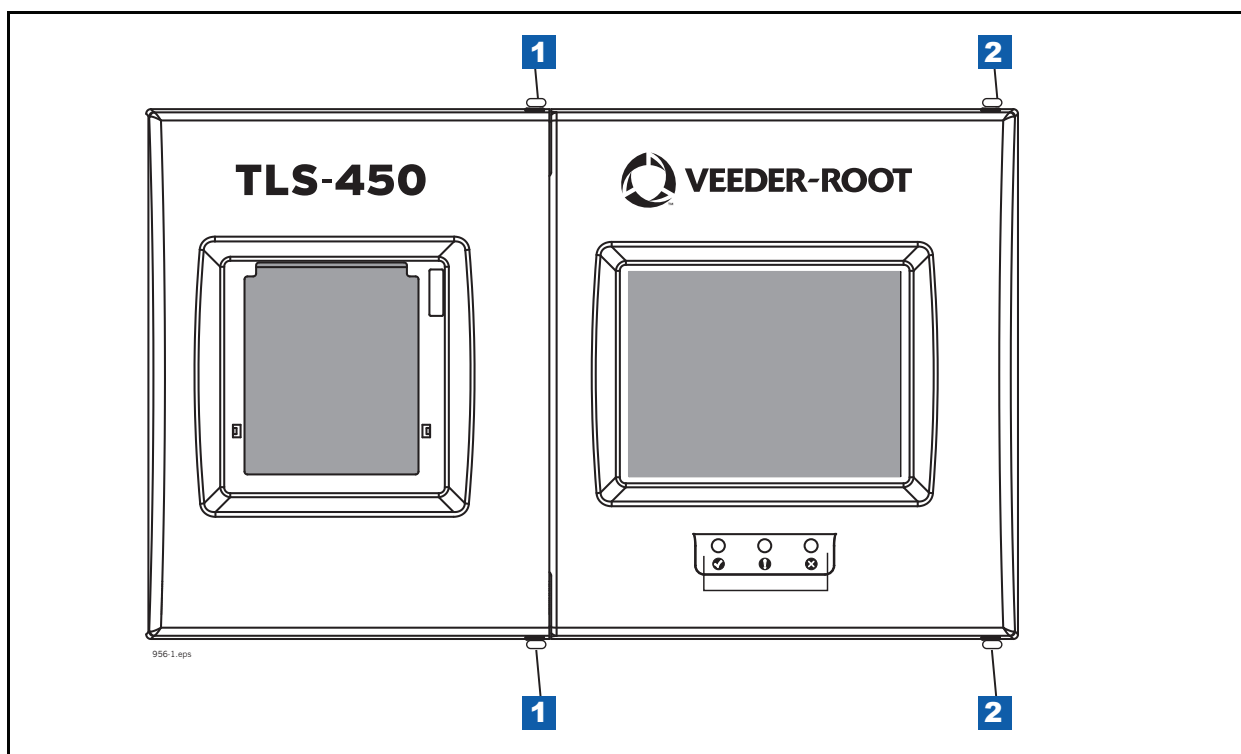

Figure 2. Front doors
| Figure 2. | Front doors | 4 |
2. Open the two front doors of the console as shown in Figure 2
Legend for numbered boxes in Figure 2
2. Open the left front door of the console as shown in Figure 2.